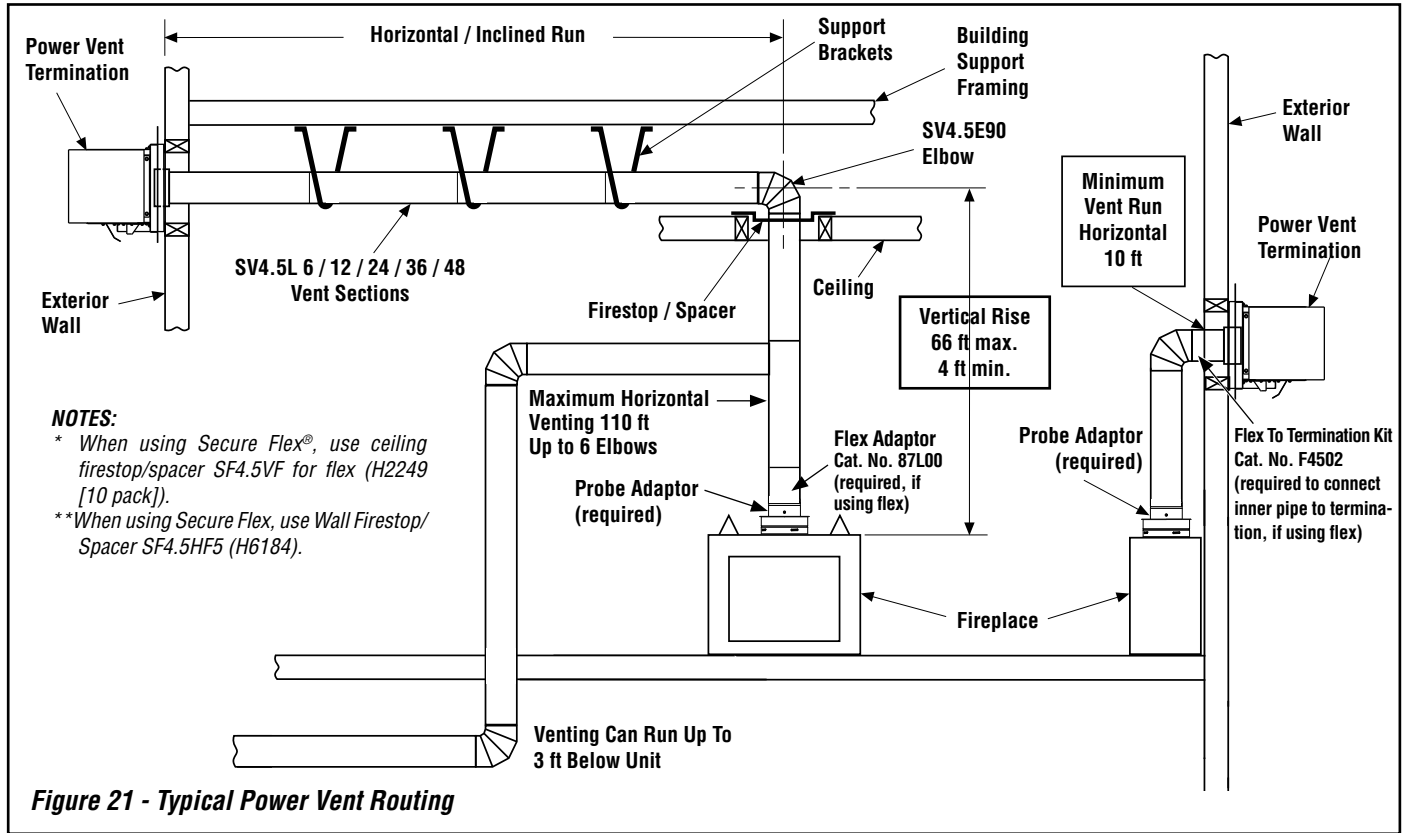

Figure 21 - Typical Power Vent Routing
C. Attach vent components to each other. Other vent sections may be added to the previously installed section in accordance with the requirements shown in *Figures 21 and 22 on Page 19*.
G. Continue installation of horizontal/inclined sections. Continue with the installation of the straight vent sections in horizontal/inclined run as described in **Step C**. Install support straps every 3' (914 mm) along horizontal/inclined vent runs using conventional plumber's tape (*see Page 19, Figure 21*).
See **Figures 21 and 22 on Page 19** illustrating the various horizontal venting configurations that are possible for use with these appliances. The table in **Figure 22 on Page 19** shows each system's minimum and maximum vertical and horizontal length values that can be used to design and install the vent components in a variety of applications.
See **Figure 21 on Page 19**.